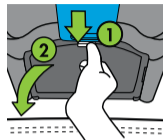

Figure 34
Open LATCH Bin Door by pressing and holding top of Lock Tab (1) then rotating LATCH Bin Door down (2), as shown in **Figure 34**.